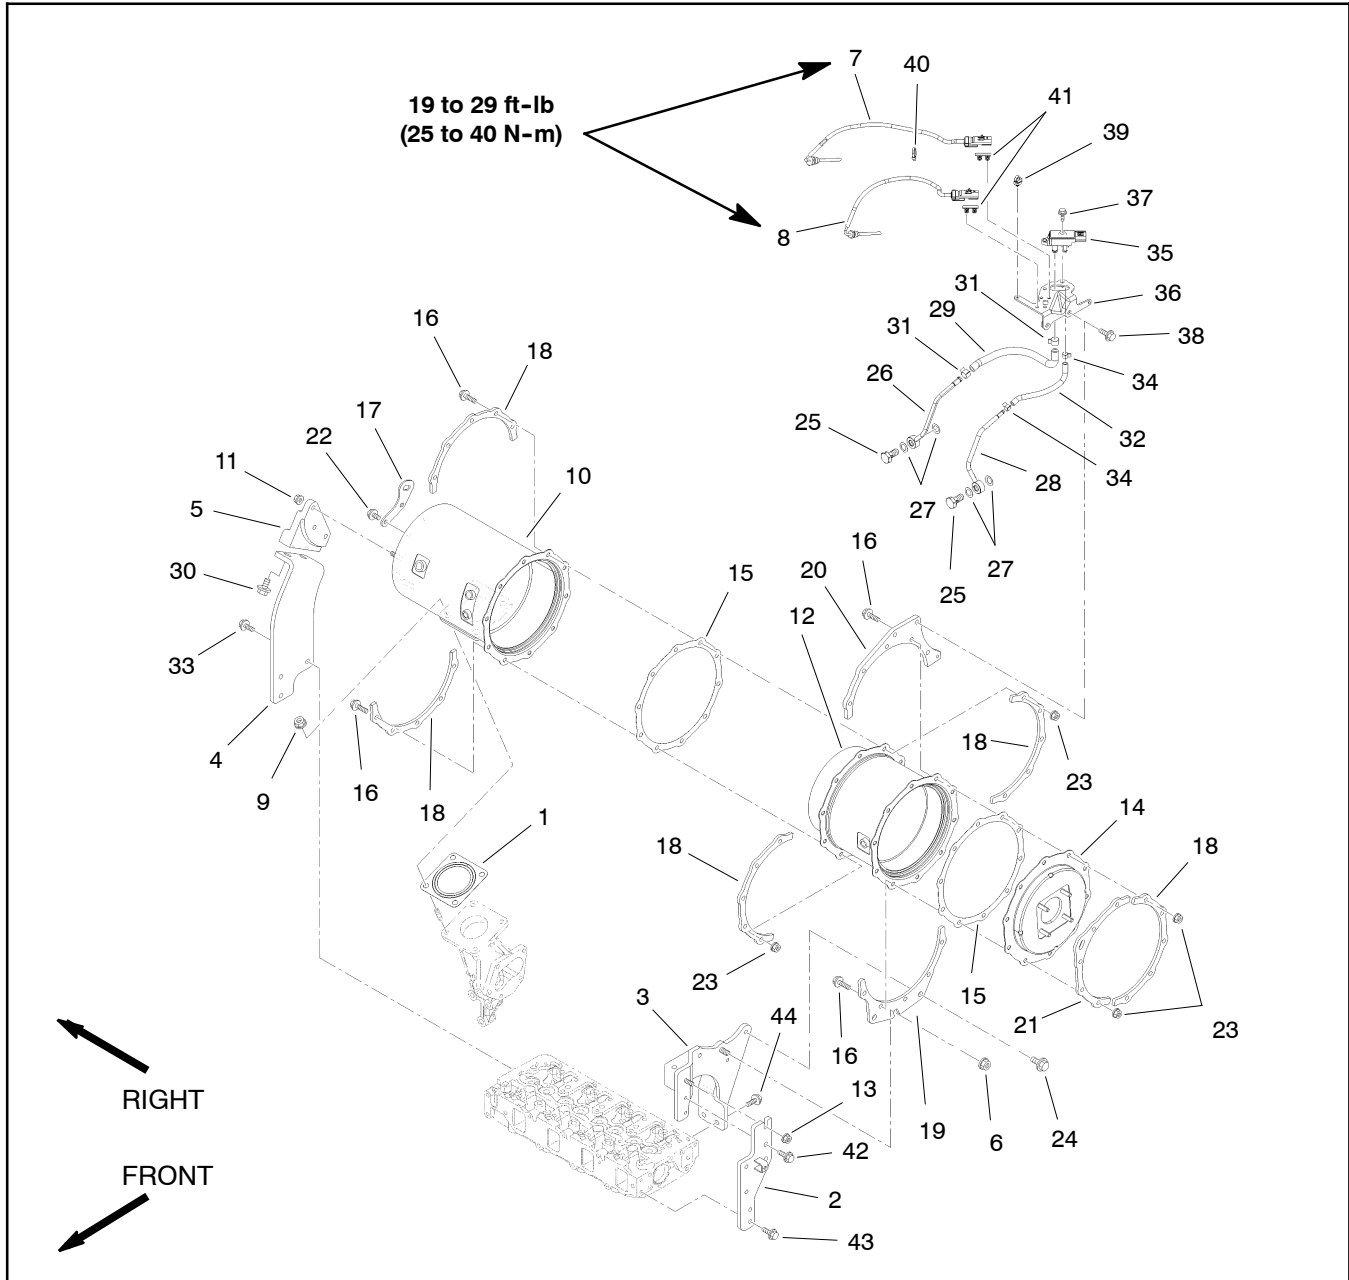
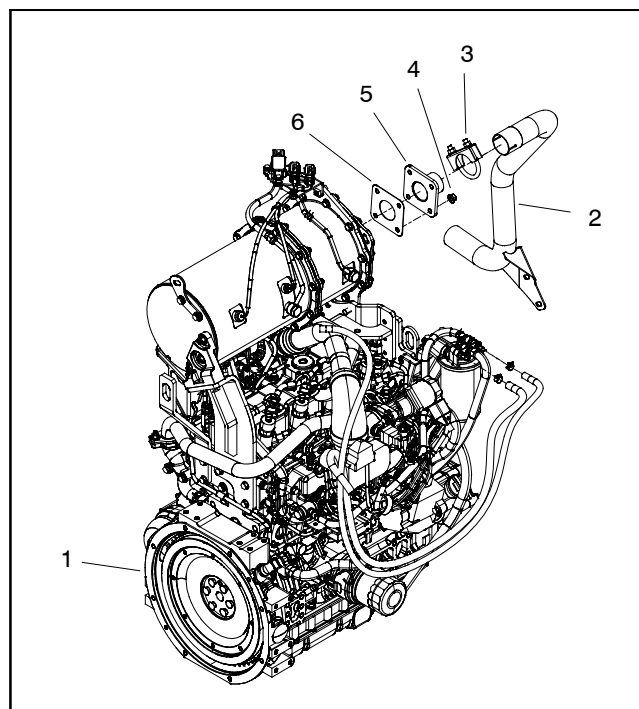

Figure 23
Figure 24
Removal (Figs. 23 and 24)
2. Remove exhaust system components from the engine as necessary using Figure 23 and 24 as guides. Discard all removed gaskets (items 1 and 15 in Fig. 23 or item 6 in Fig. 24).
Installation (Figs. 23 and 24)
2. Assemble all removed exhaust system components using Figure 23 and 24 as guides.
A. If exhaust sensors (items 7 and 8 in Fig. 23) were removed, torque sensors from **19 to 29 ft-lb (25 to 40 N-m)**.
B. If exhaust pressure pipes (items 26 and 28 in Fig. 23) were removed, replace sensor gaskets (item 27) on both sides of the pressure pipe fitting.
C. If DPF stiffeners (items 18, 19, 20 and 21 in Fig. 23) were loosened or removed, tighten fasteners that secure stiffeners before tightening fasteners that secure exhaust system to DPF stays.